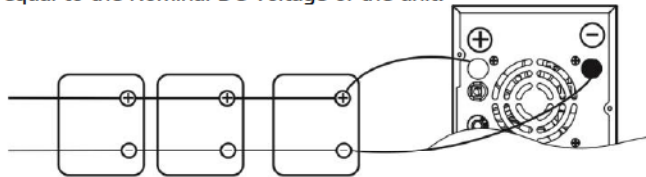

Fig 3
**3) Multiple batteries in parallel connection (Refer to Fig. 3):** Each battery's voltage must be equal to the Nominal DC Voltage of the unit.